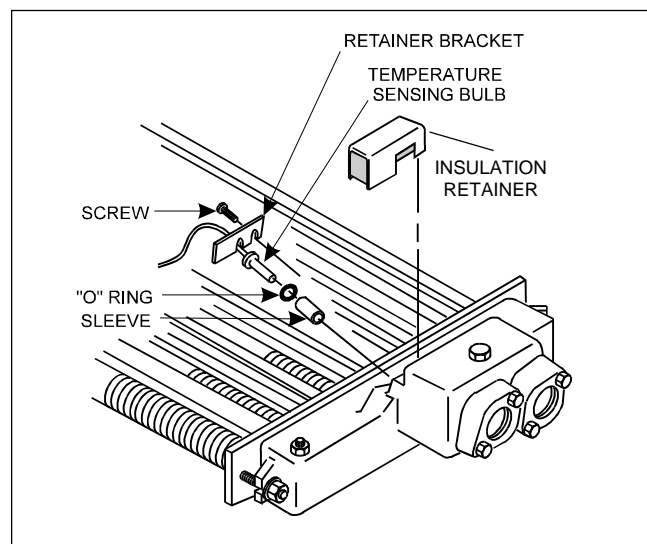

Figure 12. Temperature Sensing Bulb
6. Remove the fiberglass insulation and insulation retainer covering header sensors (see Figure 12).
13. Loosen the screw securing the temperature sensing bulb retainer bracket. Slide the retainer bracket off the bulb flange and remove the bulb from the header. Place the bulb out of harm's way (see Figure 12).